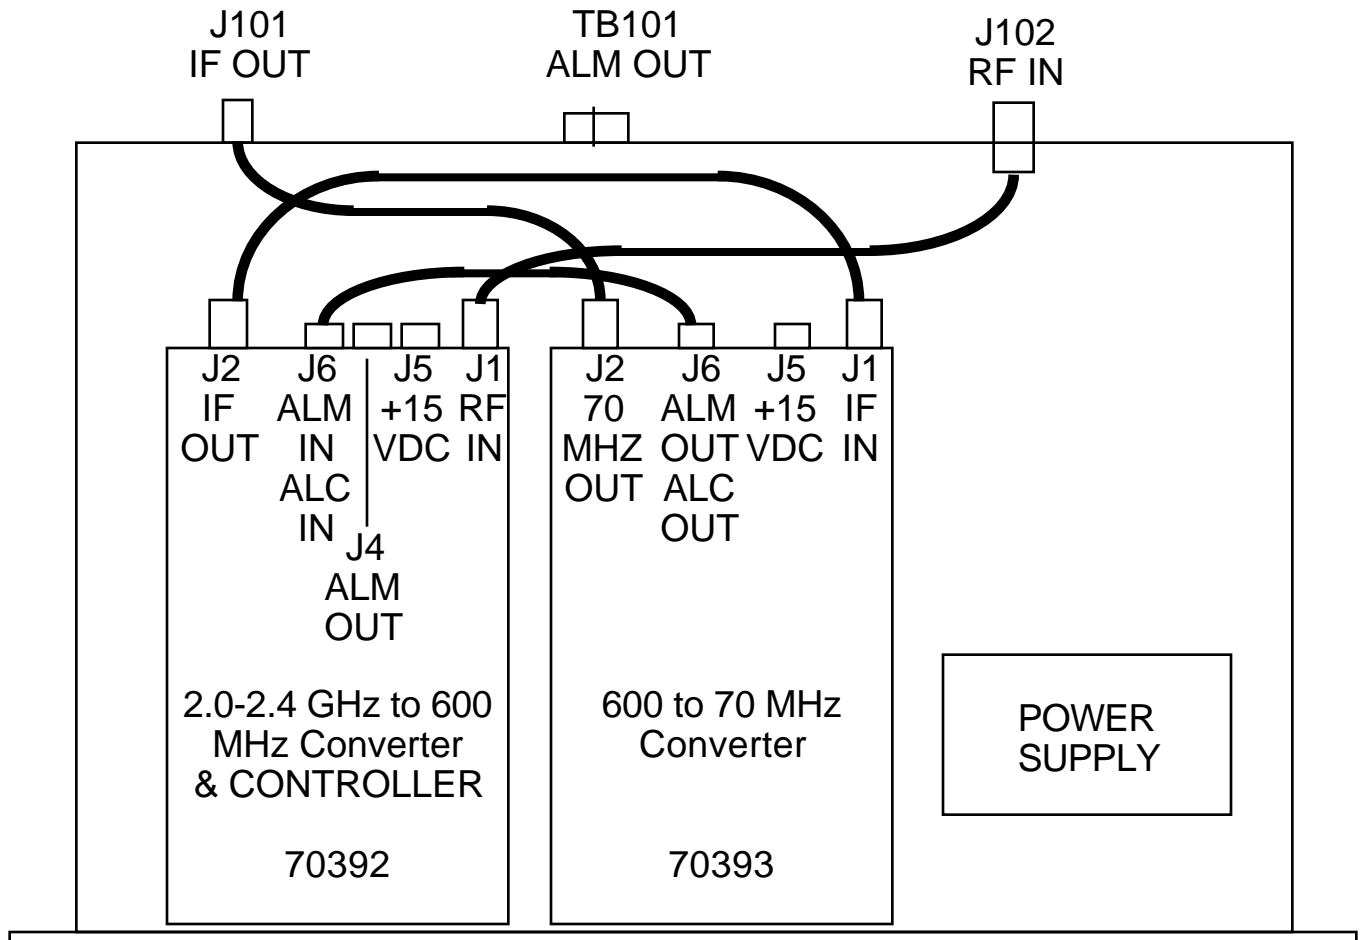

FIGURE 2.1 2089-24A Mechanical Assembly
2.1 Mechanical - The 2089-24A consists of two RF Assemblies housed in a 1 RU (1 3/4 inch high) by 14 inch deep chassis. A switching, ± 15 VDC power supply provides power for the assemblies. The 2089-24A can be secured to a rack using the 4 holes on the front panel. Figure 2.1 shows how the 2089-24A is assembled.